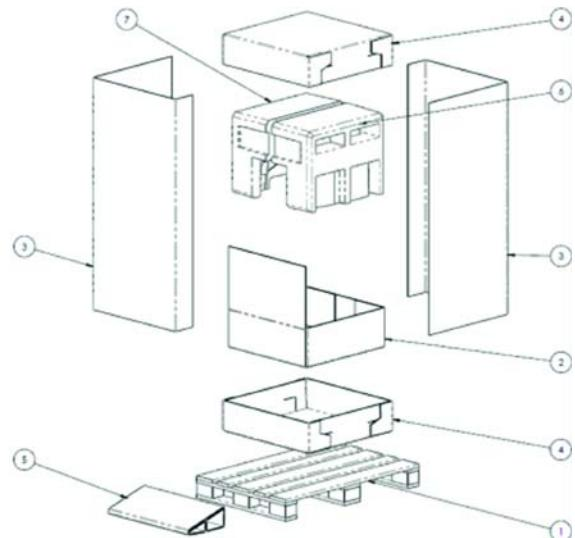

Figure 3-1 PrisMax System Shipping Carton Components
1. Use any suitable cutting tool to cut the strapping from the shipping carton. (Figure 3-1).